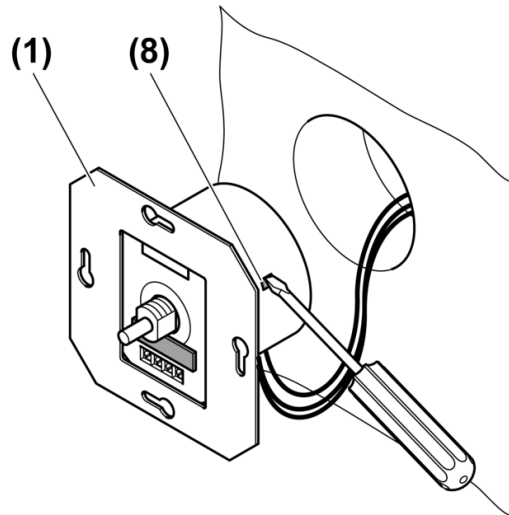

Figure 4: Adjusting basic brightness
- (1) Dimmer
- (8) Basic brightness setter
- Adjust basic brightness by turning the lateral adjuster (8) (Figure 4).